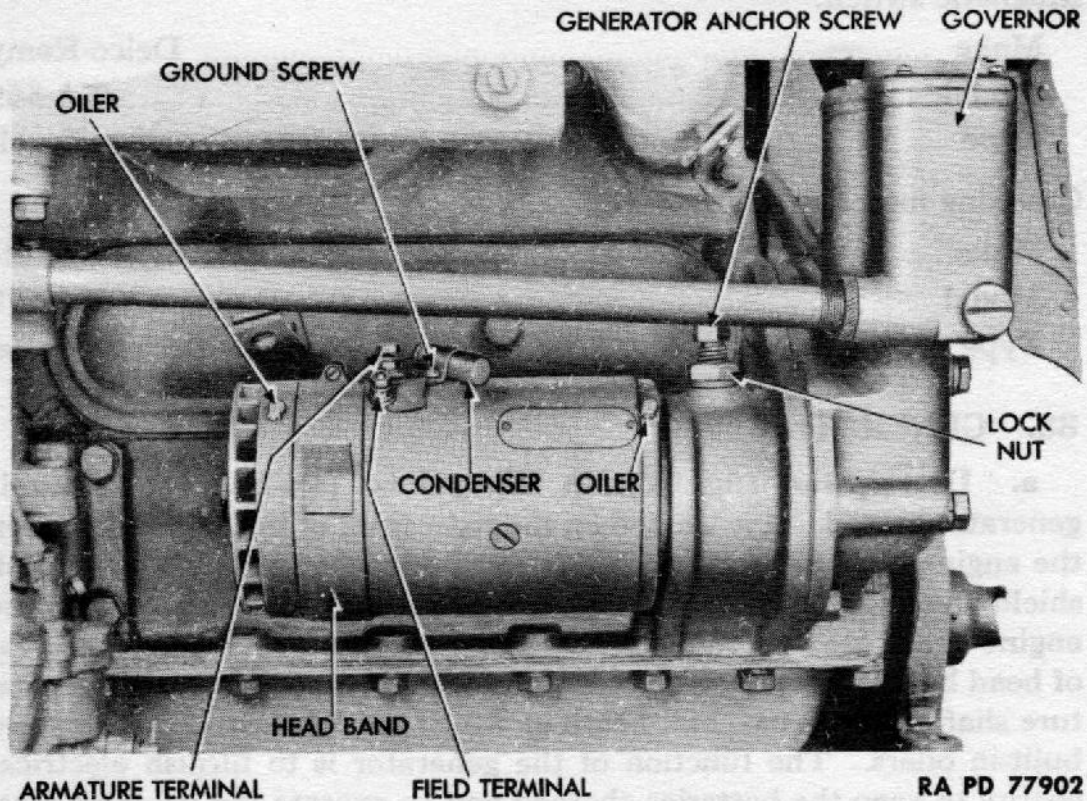
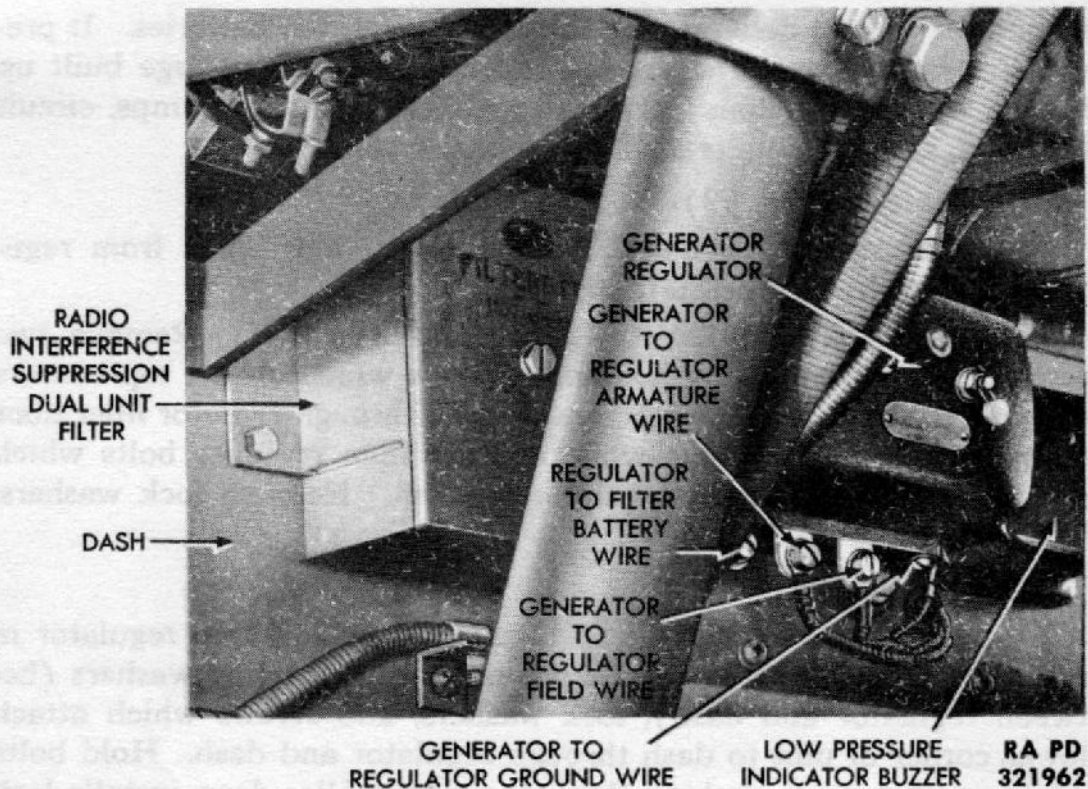

Figure 61 – Generator Installed
Figure 62 — Generator Regulator Installed
a. **Description** (fig. 61). A heavy-duty, two-brush type, 6-volt generator is used. It is located on the right front of the engine, between the engine and frame side rail. It can be reached through the splash shield opening under the right front fender. It is gear-driven from the engine gear case. A conventional head band is provided. Removal of head band gives access to commutator and two brushes. The armature shaft rides on two ball bearings which are lubricated through two built-in oilers. The function of the generator is to furnish electrical energy to keep the batteries charged and to operate the vehicle's electrical system.
(1) **INSPECT GENERATOR** (fig. 61). Remove generator head band. Note condition of commutator. If dirty or discolored, clean commutator (step (2) below). If commutator is rough, out-of-round, or if it has high mica, notify higher authority. Hook a spring scale to brush holder and pull scale at right angles to holder. Note reading as holder lifts from brush. It should be 64 to 68 ounces. If it does not fall within these limits, notify higher authority. Inspect brushes. If worn to one-half original length, replace brushes (step (3) below). Check brush lead connections to be sure they are clean and tight. Replace head band.
(3) **DETACH GENERATOR** (fig. 61). Loosen lock nut and generator anchor screw. Work generator back carefully until generator and governor gears are out of mesh. Hand generator to a man under the vehicle.
(2) **ATTACH GENERATOR TO ENGINE** (fig. 61). Insert generator into engine opening, and carefully work gear into mesh with camshaft and governor gears. Tighten anchor screw and lock nut.
(4) **POLARIZE GENERATOR.** Momentarily connect a jumper wire between armature terminals on generator (fig. 61) and generator regulator (fig. 62). Remove jumper.
a. **Description** (fig. 62). The current and voltage regulator is mounted in the driver's compartment, on the dash, under the center of the instrument panel. It is composed of three units—circuit breaker, current limiting regulator and voltage regulator. The circuit breaker operates the same as a conventional cut-out relay. It prevents the battery from discharging through the generator when the engine is not running. The current-limiting regulator controls the
b. Removal (fig. 62).
(2) **DETACH REGULATOR FROM DASH (fig. 62).** Remove two screws, lock washers, and bonding washers which attach top corners of regulator to dash. Have one man work through radiator filler door to keep nuts from turning while another man removes bolts which attach bottom corners of regulator to dash. Remove lock washers. Lift regulator from dash.
(1) **ATTACH REGULATOR TO DASH (fig. 62).** Place regulator in position on dash, with terminals down. Install bonding washers (between regulator and dash), lock washers, and screws which attach lower corner of unit to dash through regulator and dash. Hold bolts while another man, working through radiator filler door, installs lock washers and nuts.
(2) **CONNECT WIRES (fig. 62).** Connect wires to regulator as follows: blue wire from generator armature terminal to armature terminal, yellow wire from generator field terminal to field terminal, green wire from supply filter to battery terminal, black wire from generator ground screw to ground (side) terminal.